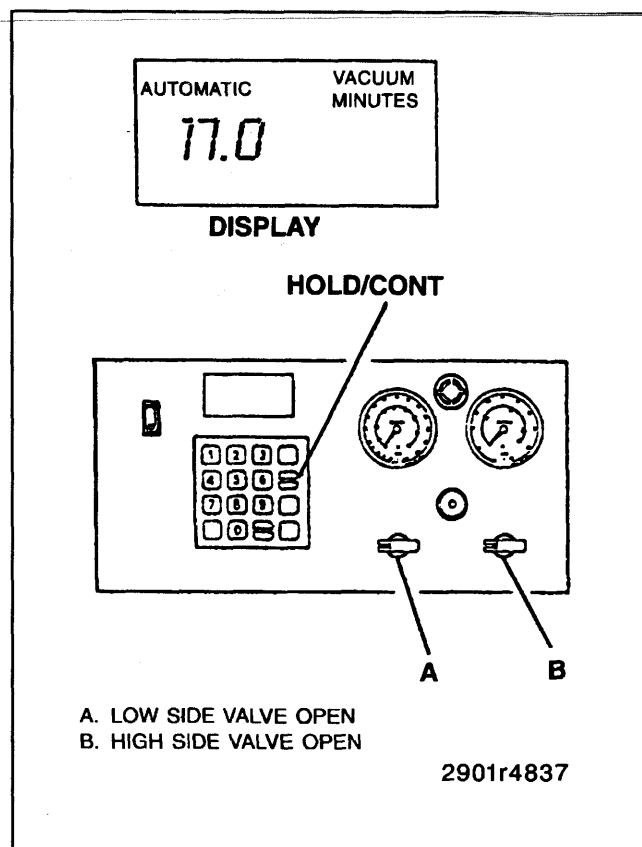

Figure 18—System Evacuation
4. At approximately the 17 minute mark on the display, (pump has run for 3 minutes) press "HOLD/CONT" key to stop vacuum pump (figure 18).